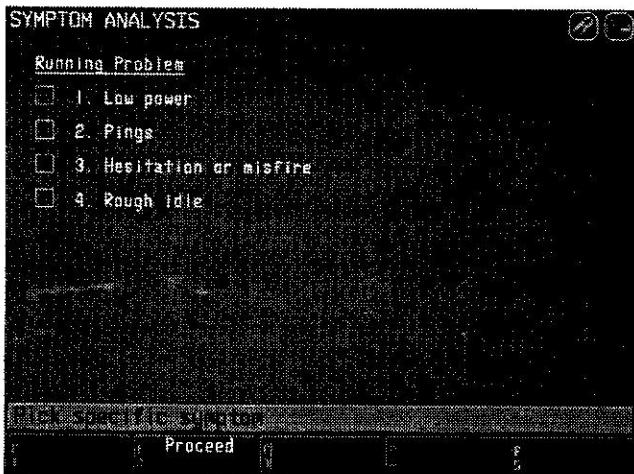

Figure 2-8
3. When you select certain symptoms, such as *Starting Problem* or *Running Problem*, you will be prompted to select specific symptoms (see Figure 2-8).